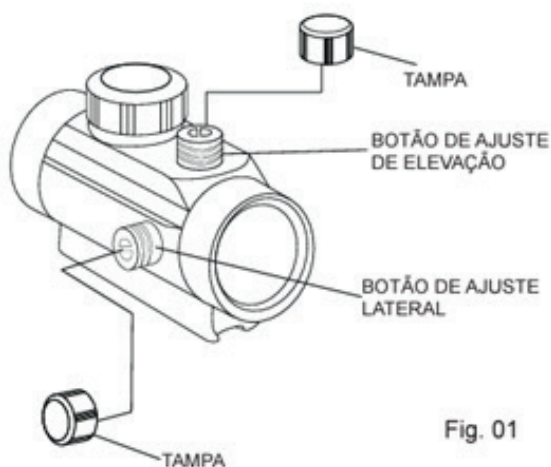

Fig. 01
- Remova as tampas de rosca das torres de regulagem vertical e horizontal (Fig. 01)